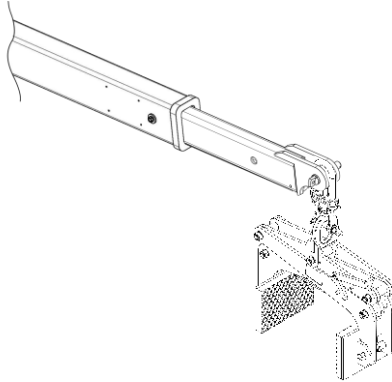

Figure 1.1
**Step 1:** Hook the Scissor Clamp to a forklift boom or to a crane hook (Figure 1.1)